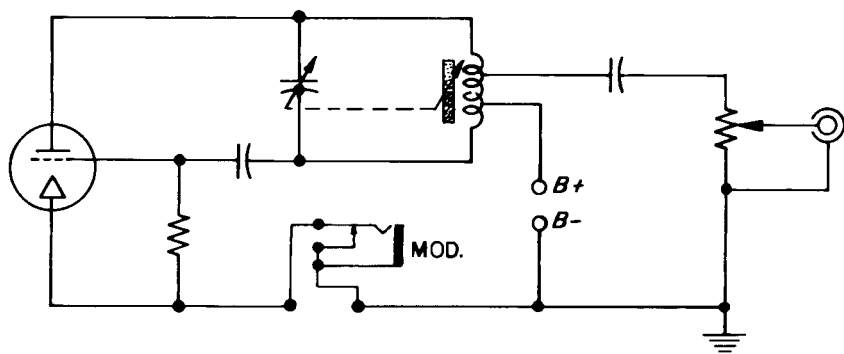

Figure 4. Elementary Schematic Diagram.
2.1 CIRCUIT. (See Figure 4.) The Hartley oscillator circuit is used in the Type 1211-B Unit Oscillator. The output control is tapped across a portion of the tuned circuit for the low-frequency range, and is coupled to the tuned circuit by a pickup coil for the high-frequency range. The tube is a Type 5763 nine-pin miniature beam-power amplifier tube.